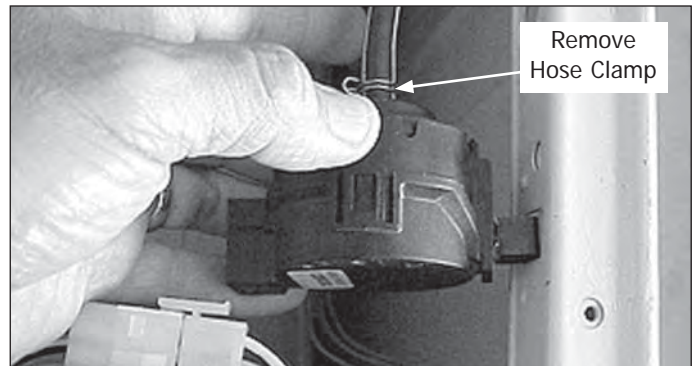

Figure 4-78.
3. Turn the sensor one quarter turn to release it from the side panel and pull out on the sensor. (See Figure 4-78)
4. Disconnect the pressure hose from the sensor. (See Figure 4-78)